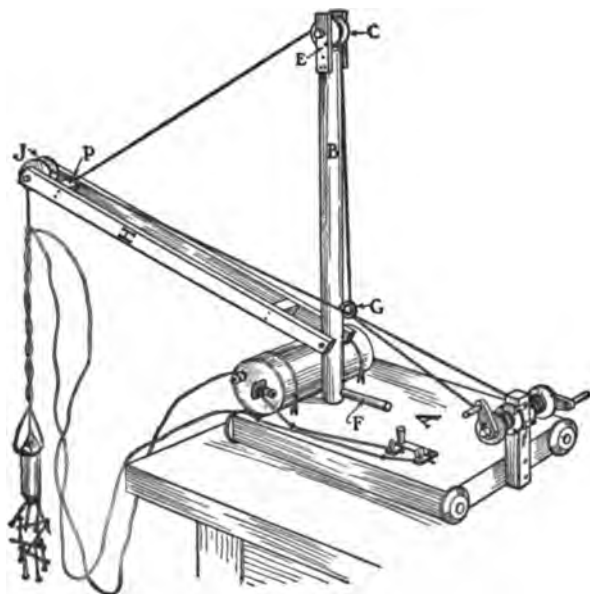
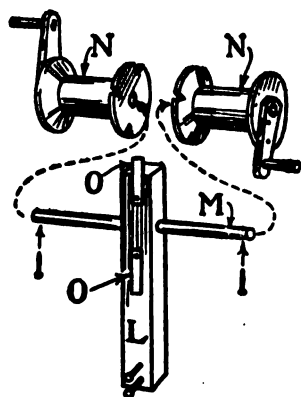

FIG. 176. — An Electro-Magnet Derrick.
FIG. 186. — Detail of Derrick Windlass.
The **Electro-Magnet Derrick** shown in Fig. 176 will hoist nails and other small pieces of hardware from the floor to a table top, and as the *boom*, or arm, can be swung from side to side, and raised and lowered, loads can be moved from place to place in the same way as with large derricks. The toy derrick may be used for loading and unloading toy wagons, carts, and trains of cars, provided, of course, you use iron or steel of some sort for your loads. It is easy enough to get nails, brads, tacks, and odd pieces of hardware for the purpose. The model from which Fig. 176 was made has lifted a bunch of two hundred and eighty-four brads  $\frac{3}{8}$  inch long. By using smaller brads, or tacks, a much larger number could be lifted.
**The Derrick.** Cut the base about 8 inches wide and 10 inches long (*A*, Fig. 176). The *mast* (*B*) is a piece of broom-handle or curtain-pole 16 inches long, and fits loosely in a hole bored in the base. Figure 183 shows a detail of the mast. The *pulley* upon its upper end (*C*) is made of two spool-ends nailed together (Fig. 184), and it turns upon the axle *D*, which slips through holes in the *plates E* nailed to the end of the mast.
The **Windlass** for raising the derrick boom, and for hoisting the loads, is shown in detail in Fig. 186. Bore a hole through upright *L* for the axle *M* to stick through, and cut axle *M* enough smaller than the spool drums *N* so they will turn easily. Fasten a crank and handle to one end of each spool, and drive a brad through each end of the axle to prevent the drums from sliding off. Cut four notches in the inner flange of each spool, as shown, and pivot the catches *O* to the post *L*, in the positions indicated, so they may be thrown into the notches to lock the windlass (Fig. 176).
The **Hoisting Cables** should be made of strong cord. Fasten one end of the cable for raising the boom to a nail (*P*, Fig. 176), and run this cord up and over the mast pulley, then down through screw-eye *G* and over to one drum; tie it securely to the drum so it will not slip around. The other cable should be fastened between the nut and
Figure 176 shows how the dry-cell may be strapped to the base board in front of the mast, and how the wires that connect the electro-magnet, switch, and cell should be twisted around the hoisting cable, part way, and the remainder of their length allowed to hang. Be sure to cut the wires long enough to reach from a table-top down to the floor. Use flexible wire if you can get it.